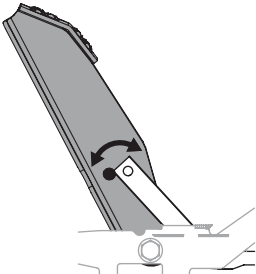

Fig. 34
3. Position the pedal to the optimal position based on operator preference (Fig. 34).